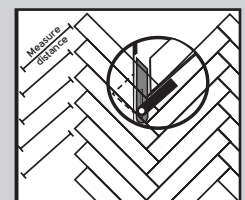

Fig. 9
10. Cutting and installing planks at the walls should be done as follows: Measure and mark the planks as shown in the diagram. The angle for the wall can be determined using an angle finder (see below) (Fig 9).